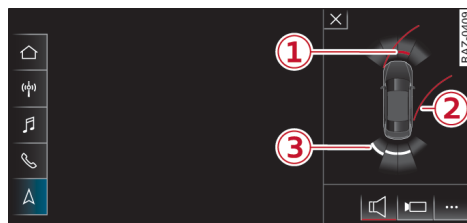

Fig. 120 Centre display: Distance indicator
Red segments ① ⇒ *page 161*, *Fig. 120* represent objects detected in the direction in which you are travelling. The closer the vehicle gets to the obstacle, the closer the segments move towards the vehicle in the graphic. At the latest when the ►
- Press **⏏** on the centre display when the distance indicator ⇨ *page 161*, Fig. 120 is displayed.